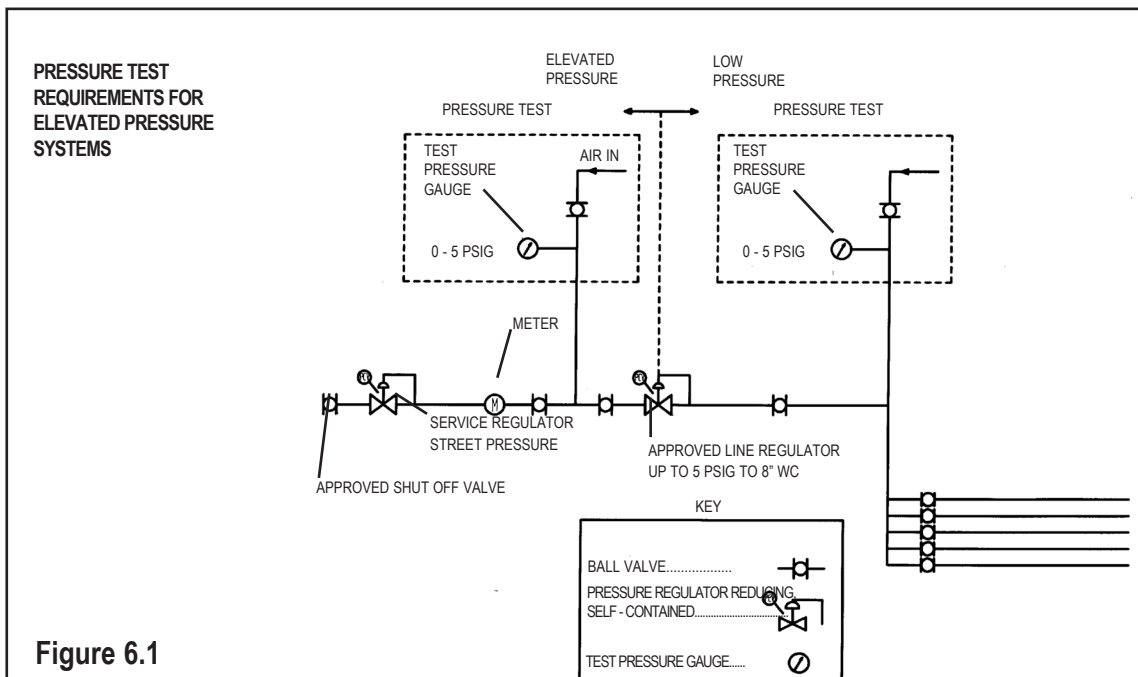

Figure 6.1
- The elevated pressure system requires a two-part pressure test. (See Figure 6.1)